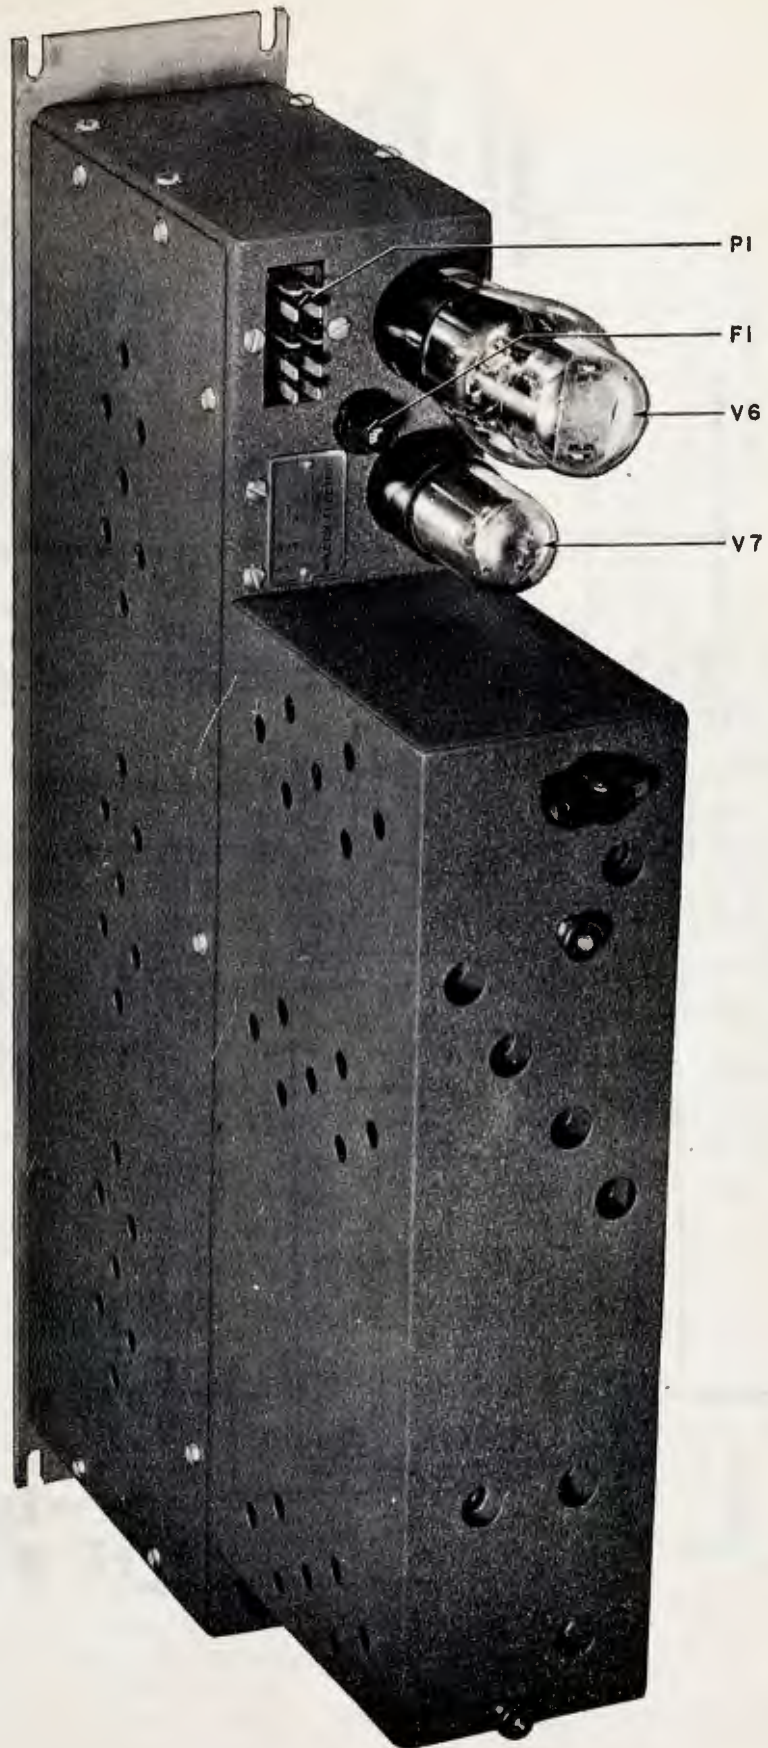

Figure 32. Radio receiver type CW3, rear view with parts referenced.
77. SECTIONALIZING TROUBLE IN RECEIVER BAY TYPE 113A (figs. 32 and 33).